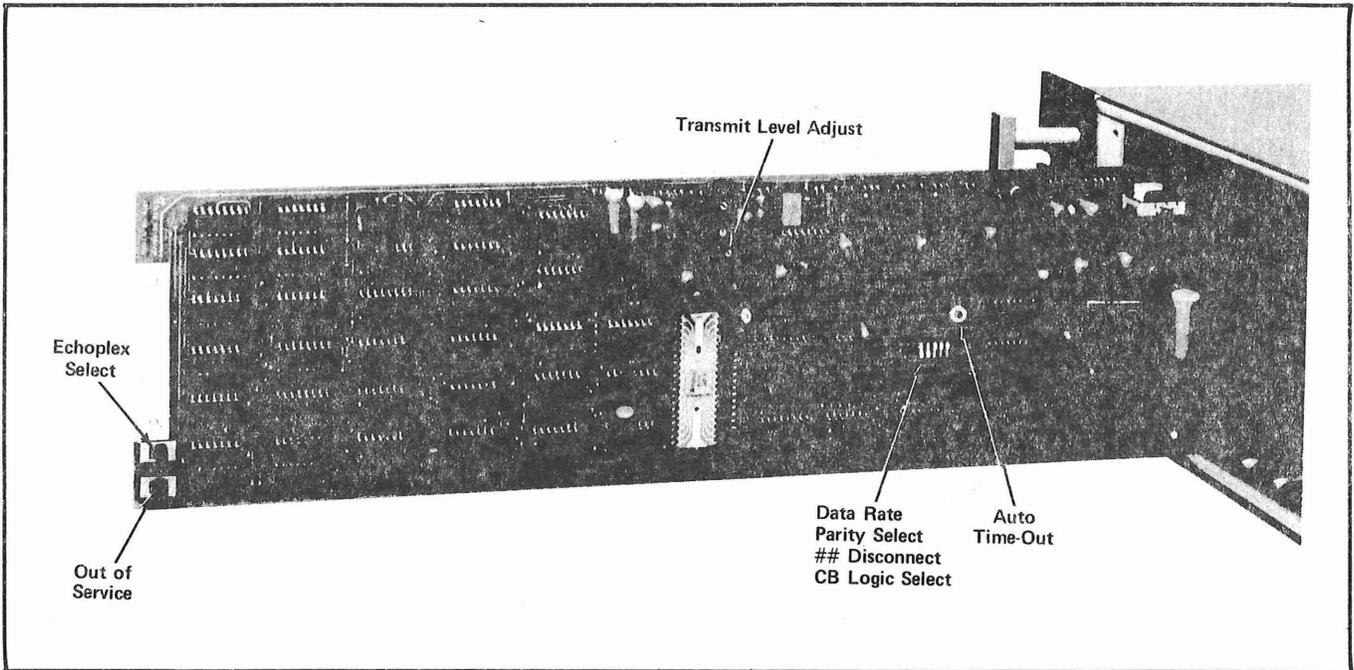

Figure 2-1. Modem Channel Board (Shown Mounted on the Extender Board) (See Table 2-4 for explanation of selectable functions.)
- (a) One modem channel board, 09092-00, (figure 2-1) for each communications channel up to a maximum of eight.